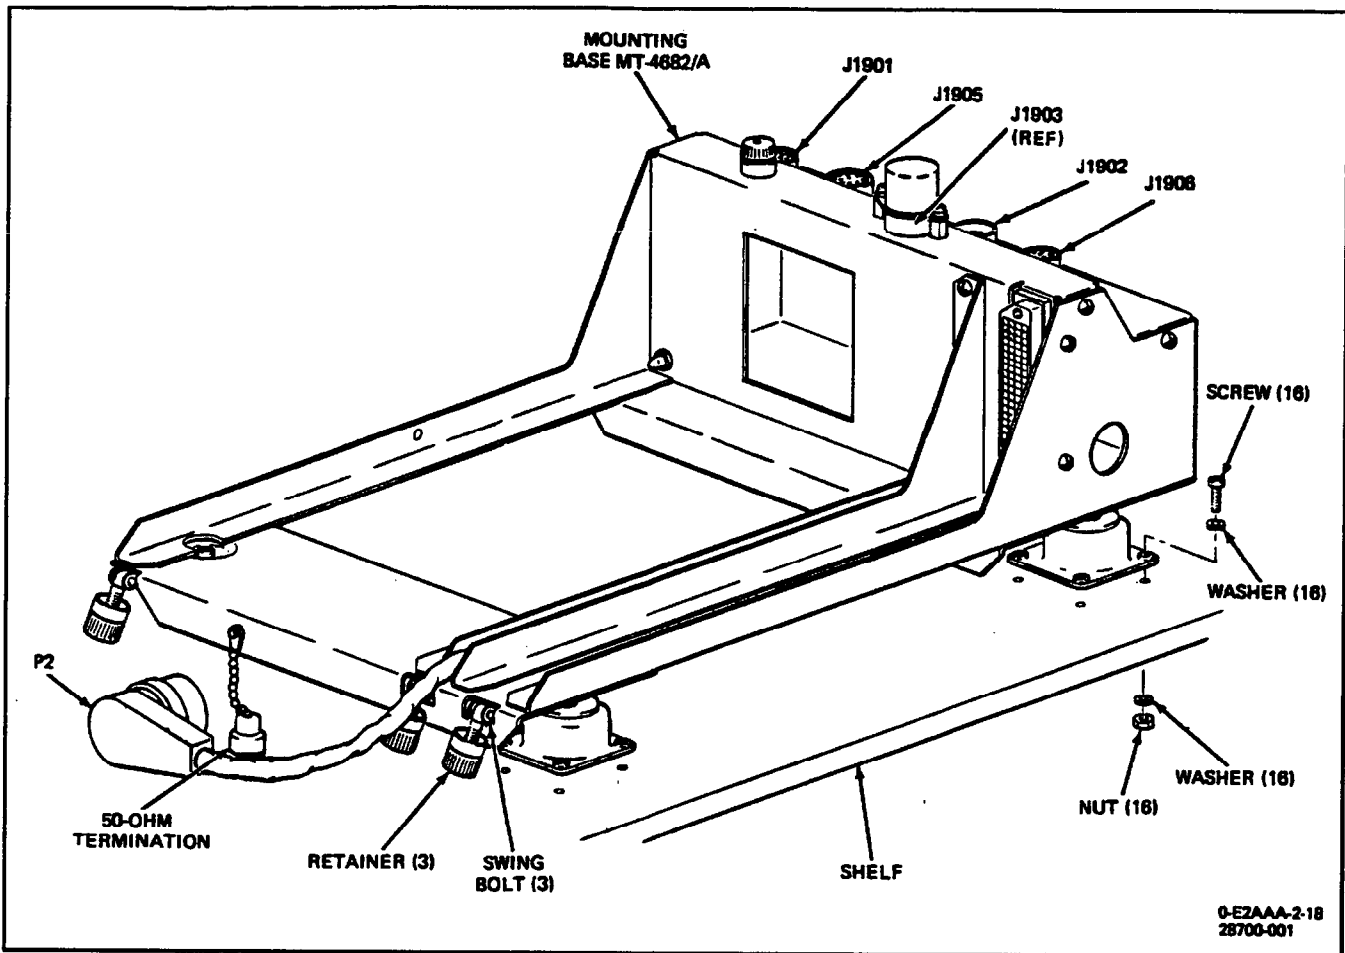

Figure 1. Removal and Installation of Mounting Base MT-4682/A
**3. REMOVAL.** (See figure 1.)
4. **INSTALLATION.** (See figure 1.)